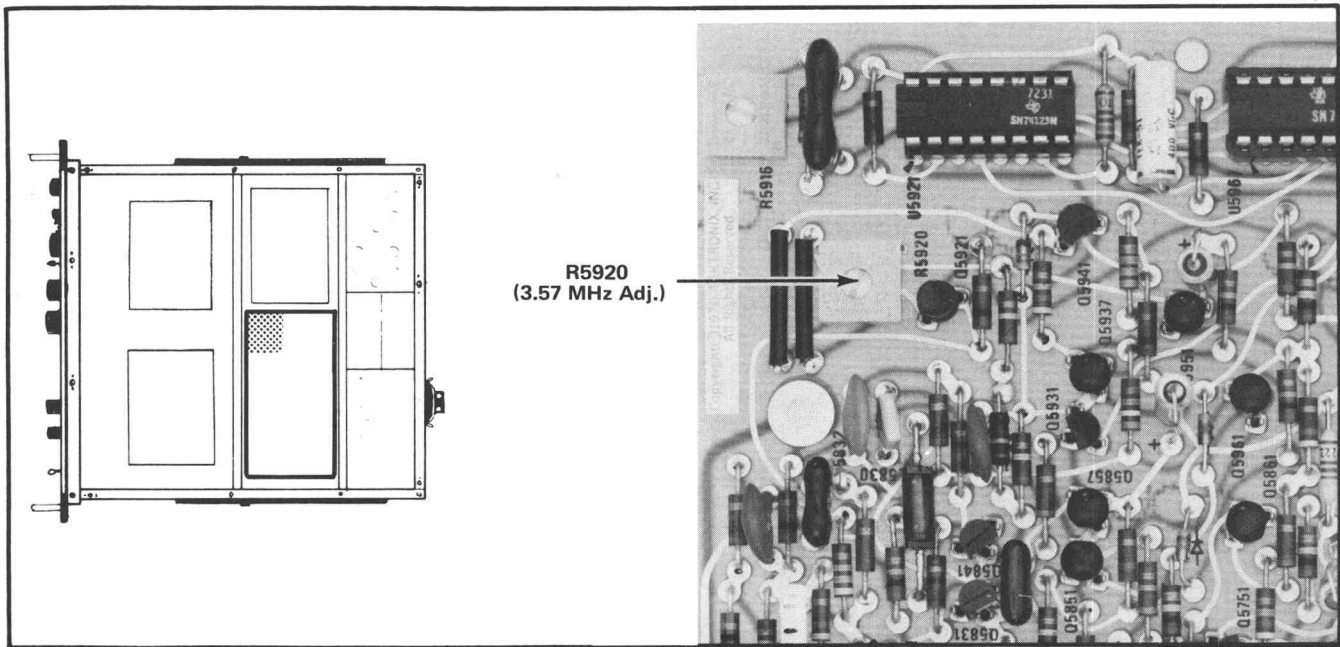

Fig. 4-13. Gen Lock circuit board location of 3.57 MHz frequency adjustment.
a. Turn the 145-M U BURST switch Off. Mis-adjust R5920 (3.57 MHz adj, see Fig. 4-13) so that the chrominance free runs fast enough to appear solid.